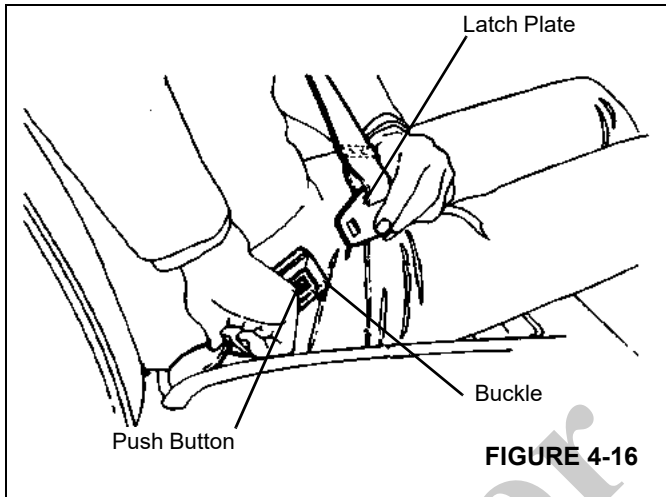

FIGURE 4-16
2. Pull the belt across your lap and push the latch plate into the buckle until it clicks (Figure 4-16).